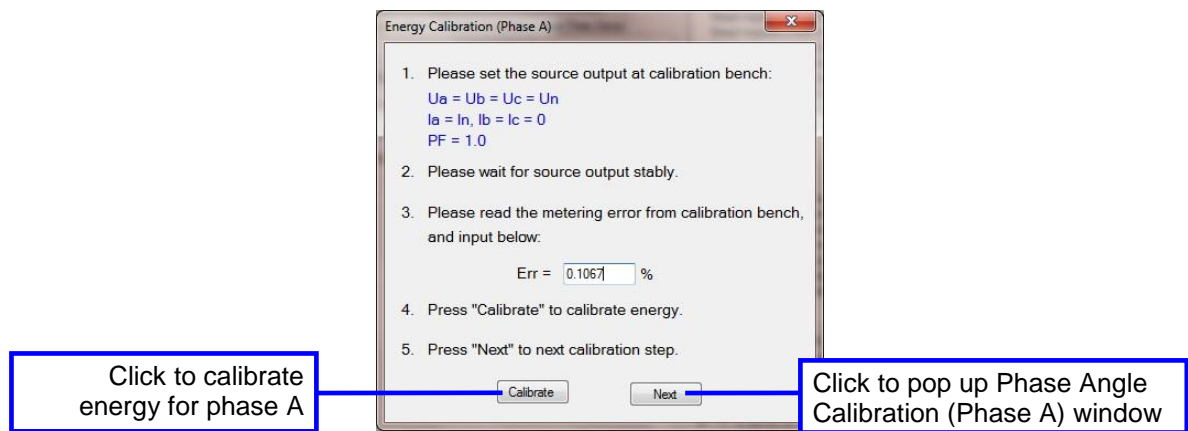

Figure 3-9 Energy Calibration (Phase A)
- Energy (Phase A). Refer to Figure 3-9.